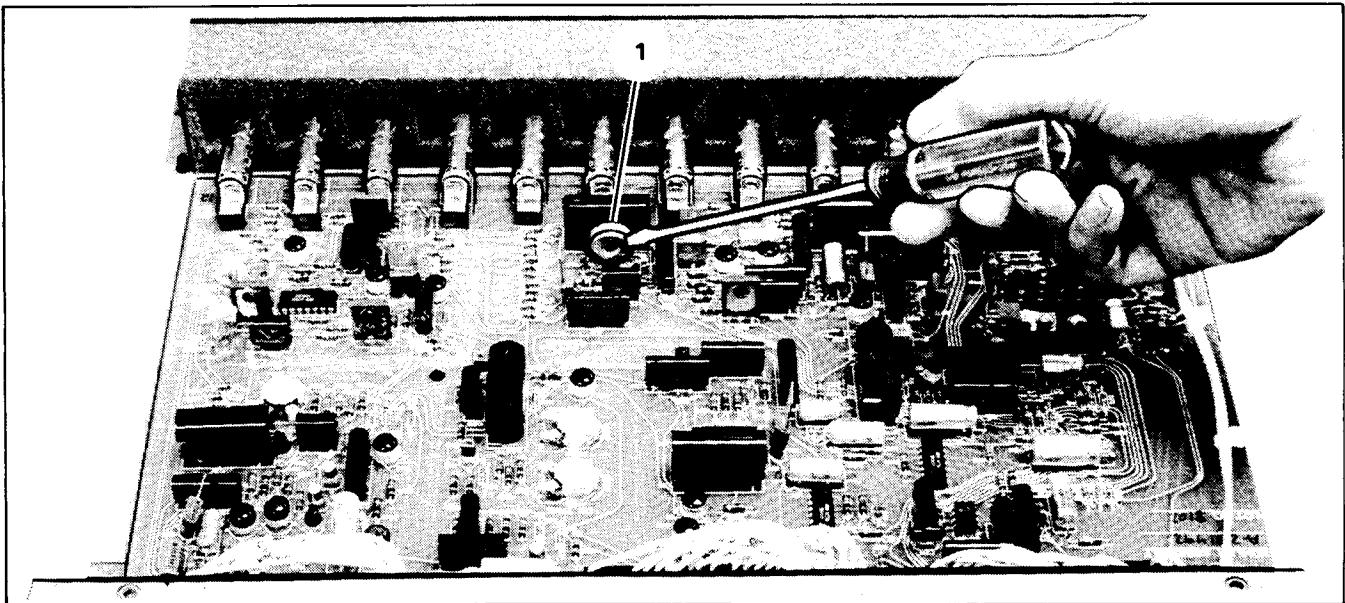

Figure 3-8. NFPA Controller
- c. Break adjustment seal and slowly adjust the overspeed pot. on the NFPA controller board just to the point where the generator set shuts down. See Figure 3-8.
Leaving Pot. 5 in its fully clockwise position, slowly adjust the overspeed Pot. on controller board clockwise until set shuts down (Figure 3-8). The overspeed shut-down function is now set.